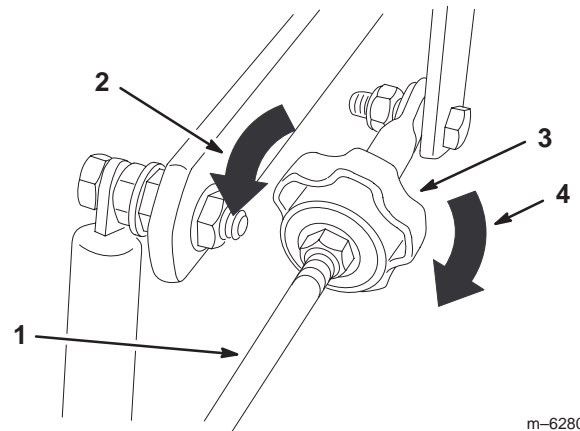

Figure 61
4. To make the machine go right, turn the knob towards the rightside of the machine. Refer to figure 61.
5. To make the machine go left, turn the knob towards the leftside of the machine. Refer to figure 61.